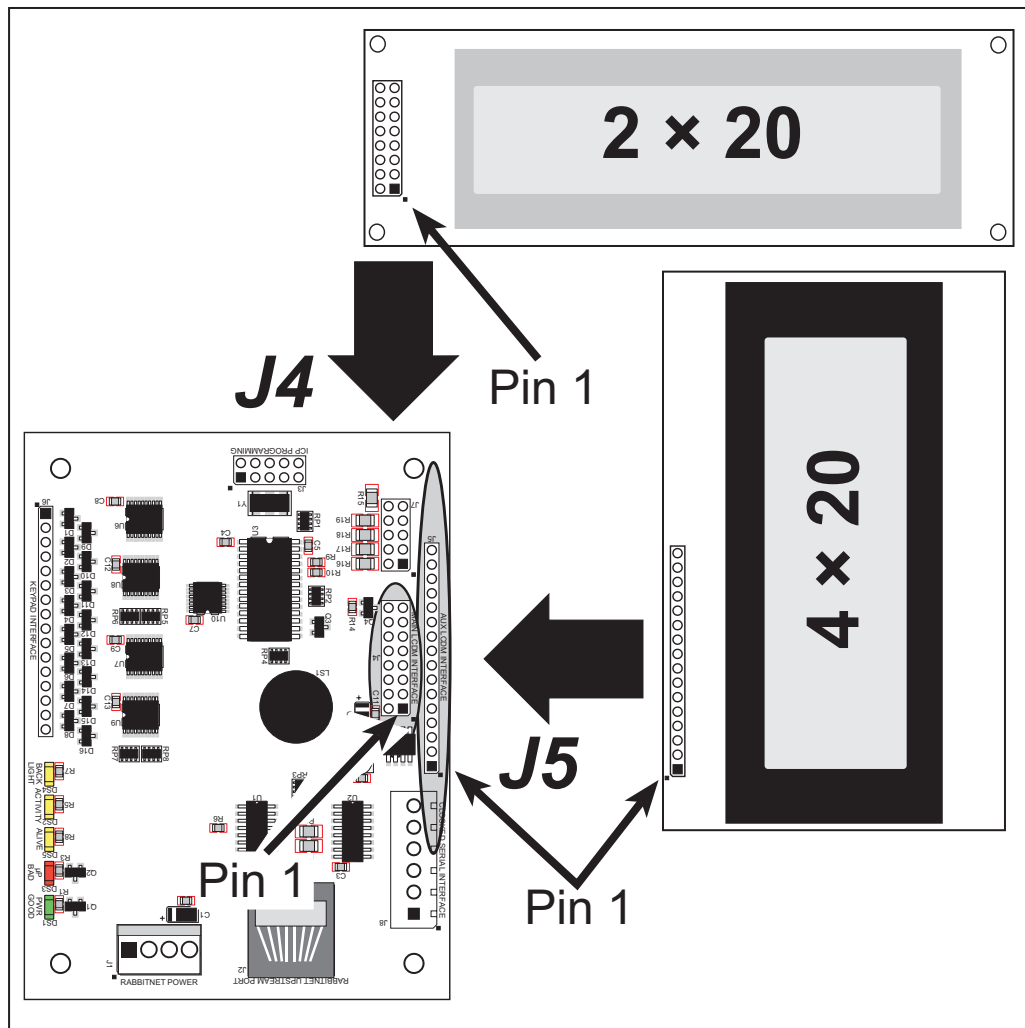

Figure C-2. Connecting Displays to Keypad/Display Interface Headers J4 and J5
2. Connect the 4×20 display to header J5 on the Keypad/Display interface as shown in Figure C-2.